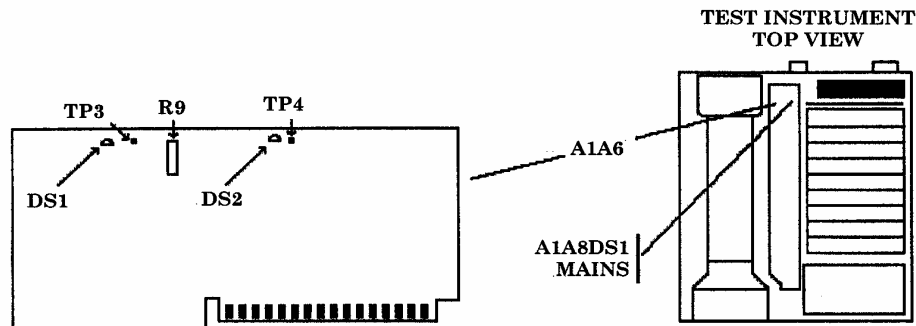
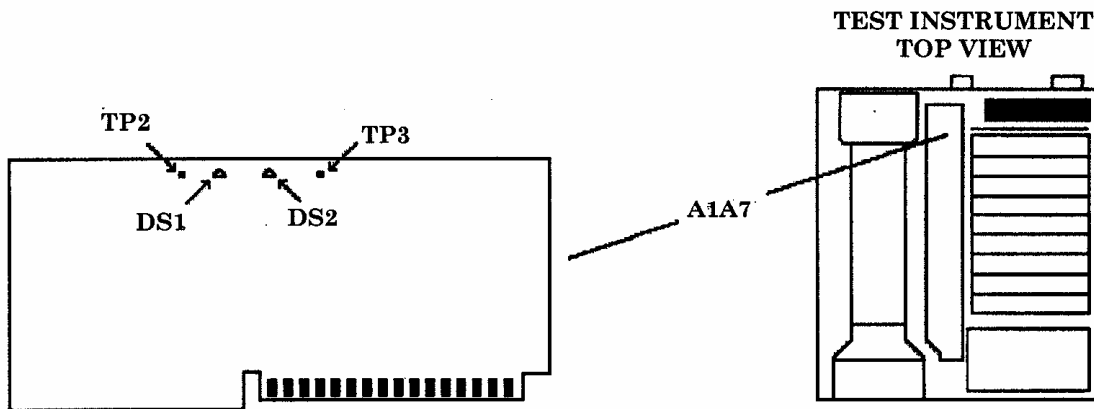
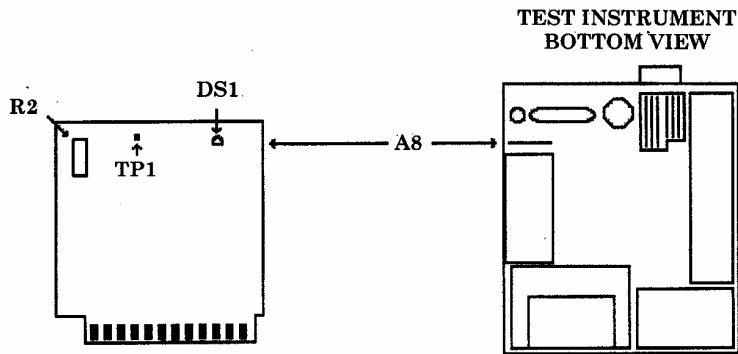

Figure 31. A1A6 Board
Figure 32. A1A7 Board
Figure 33. A8 Board
- (5) Connect multimeter **HI** to A1A6TP3 (fig. 31) and multimeter **LO** to TI chassis.
- (6) The +15 V indicator A1A6DS1 (fig. 31) (yellow LED) should be lit.
- (7) Adjust A1A6R9 (fig. 31) for a multimeter indication of 15.000 ± 0.010 V dc (R).
- (8) Connect multimeter **HI** to A1A6TP4 (fig. 31) and multimeter **LO** to TI chassis.
- (9) The -15V indicator A1A6DS2 (fig. 31) (yellow LED) should be lit.
- (10) Multimeter should indicate -15.000 ± 0.050 V dc.
- (11) Connect multimeter **HI** to A1A7TP3 (fig. 32) and multimeter **LO** to TI chassis.
- (12) The 120 V indicator A1A7DS1 should be lit.
- (13) Multimeter should indicate 120.0 ± 2.0 Vdc.
- (14) Connect multimeter **HI** to A1A7TP2 and multimeter **LO** to TI chassis.
- (15) The 5.2 V indicator A1A7DS1 (fig. 32) (yellow LED) should be lit.
- (16) Multimeter should indicate 5.200 ± 0.050 V dc.
- (17) Disconnect multimeter from TI.
- (18) Position TI on its right side.
- (19) Remove TI bottom cover.
- (20) Connect multimeter **HI** to A8TP1 (fig. 33) and multimeter **LO** to TI chassis.
- (21) The 22 V indicator A8DS1 (fig. 33) (yellow LED) should be lit.
- (22) Adjust A8R2 (fig. 33) for a multimeter indication of 22.000 ± 0.020 V dc (R).